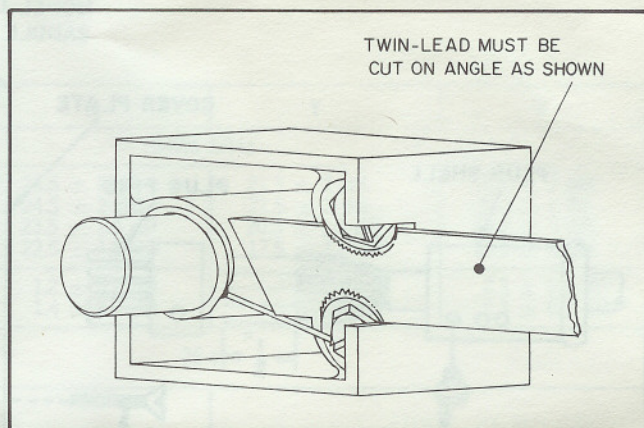

Fig. 3—Connecting Twin Lead to G-300A Adapter
1. Cut the twin lead on a bias as shown in Fig. 3.